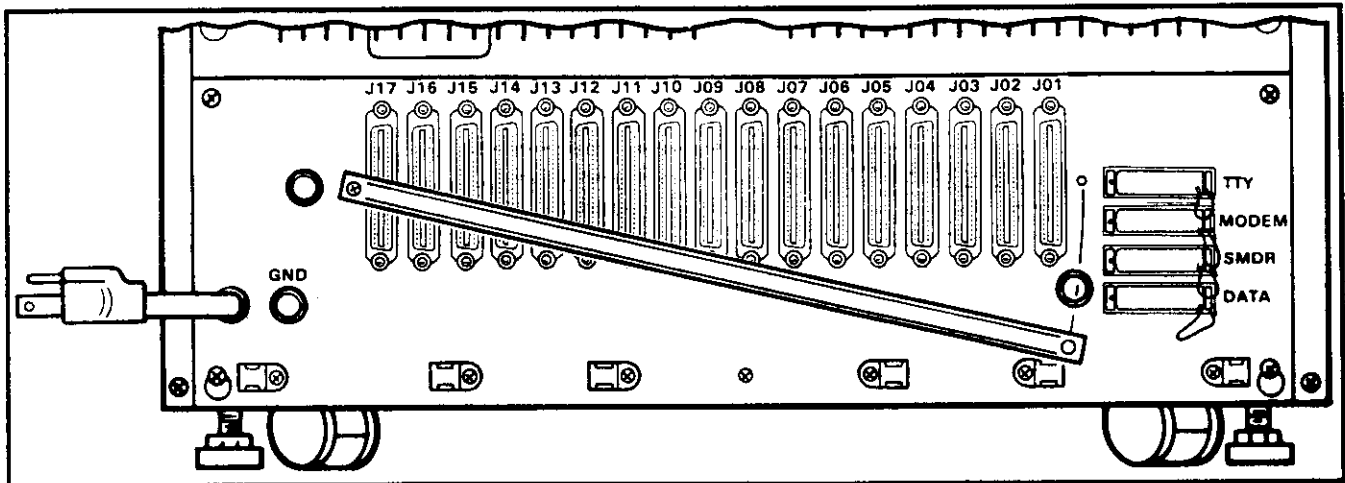

FIGURE 27—FCEC REAR CONNECTOR PANEL
06.02 Cables with male amphenol-type connectors are attached to the connector panel of the FCEC and are secured with the connector locking bar (Figure 27). Plastic cable clamps are provided along the base of the FCEC to secure the cables. The opposite ends of the cables are then terminated on 66-type quick-connect terminal blocks on the MDF (split blocks with bridging clips should be used to allow for fault isolation). A typical MDF layout is shown in Figure 27. Connect each cable from the FCEC to one side of the block, and connect external equipment cables to the other side. Use bridging clips to make the connections.